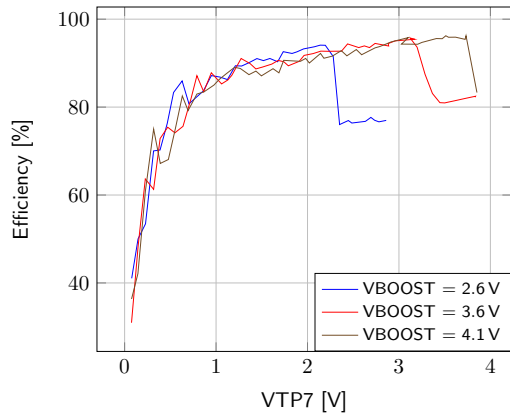

Figure 9: Boost efficiency for ITP7 = 1 mA
- **VBOOST**: Measure the current and the voltage. Repeat the measurement a copious number of times to be sure to capture the current peaks. Figure 9 has been obtained by averaging over 100 measurements configured with a 100 ms integration time.